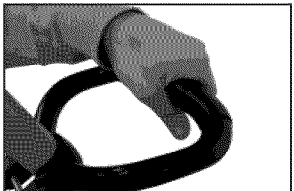

Figure 17 - Positioning hand on front handle.
2. Hold the front handle with one hand. (See Figure 17)